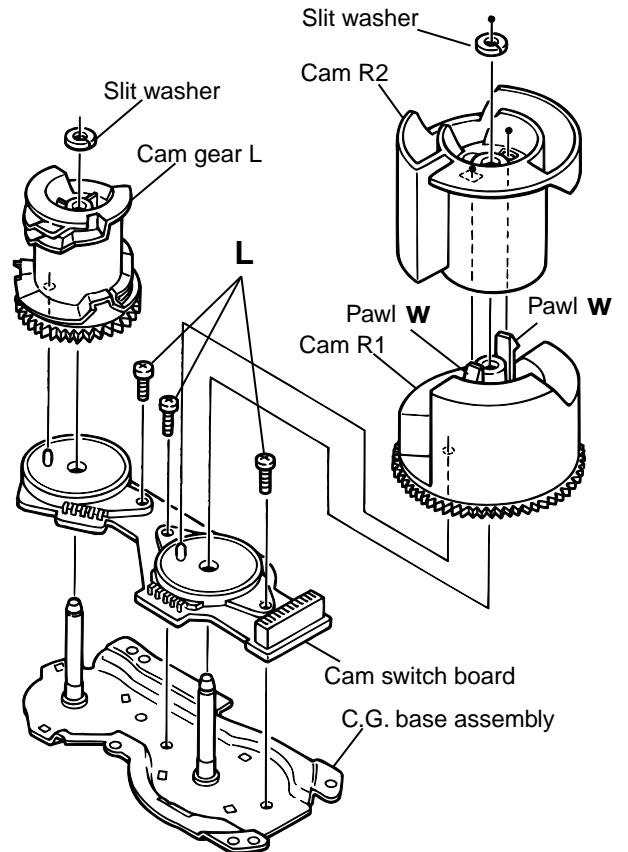

Fig.22
**[Note]** When the chassis assembly is turned over under the conditions wherein the gear bracket and belt have been removed, then the pulley gear as well as the gear, etc. constituting the gear unit can possibly be separated to pieces. In such a case, assemble these parts by referring to the assembly and configuration diagram in Fig. 22.
### ■ Removing the cams R1/R2 assembly and cam gear q(See Fig.22)
### ■ Removing the C.G. base assembly (See Fig.22 and 23)